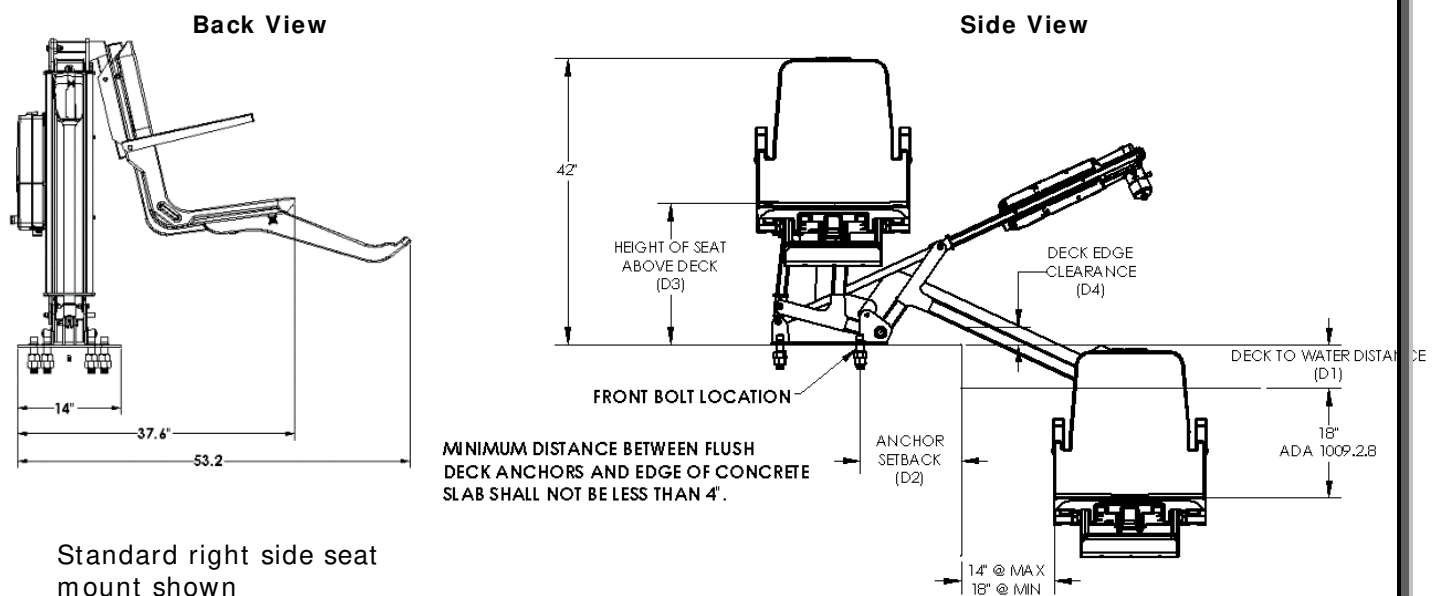

Figure 10. Installation Layout
12. Attach seat assembly with bolt and thumbnut in appropriate hole. Refer to **Figure 10** and **Table 1** to determine the correct seat mounting hole to use. Also see **Figure 6**.
The optimal mounting distance for the deck front anchors is 12.5"/31.75 cm from the edge of the pool. The front anchors can be installed up to a maximum of 17"/43.18 cm from the edge of the pool, but the deck edge clearance decreases the farther the lift is installed from the pool edge. The setback distance from the pool edge to the front anchor locations varies depending upon pool geometry. The ML300 is designed to be used with simple pool edge designs with deck to water level differences of 0" to 8" maximum. Review **Figure 10** and **Table 1** to determine the correct seat mounting location and anchor installation setback for your pool.
3. Use **Figure 10** and **Table 1** to determine the proper location to install the lift, making certain that the front anchors are located the correct distance from the pool edge.
2. Use **Figure 10** and **Table 1** to determine the proper location to install the lift, making certain that the front anchors are located the correct distance from the pool edge.